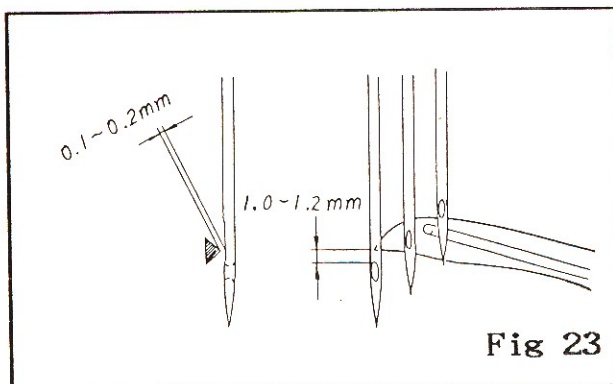

Fig 23
- (4) When the Loper point is behind the left needle, the distance between the Loper point and the top edge of the left needle's eye should be 1.0 - 1.2 mm. The clearance between the needle and the looper should be 0 - 0.05 mm. (Fig 23)
- (5) 當左針下降至針尖與勾針上沿齊時，勾針眼之中心與左針中心線距離約 5.0-6.0mm。(圖 24)
*When the Looper point is behind the left needle, the distance between the Looper point and the top edge of the left needle's eye should be 1.0 - 1.2 mm. The clearance between the needle and the looper should be 0 - 0.05 mm. (Fig 23)